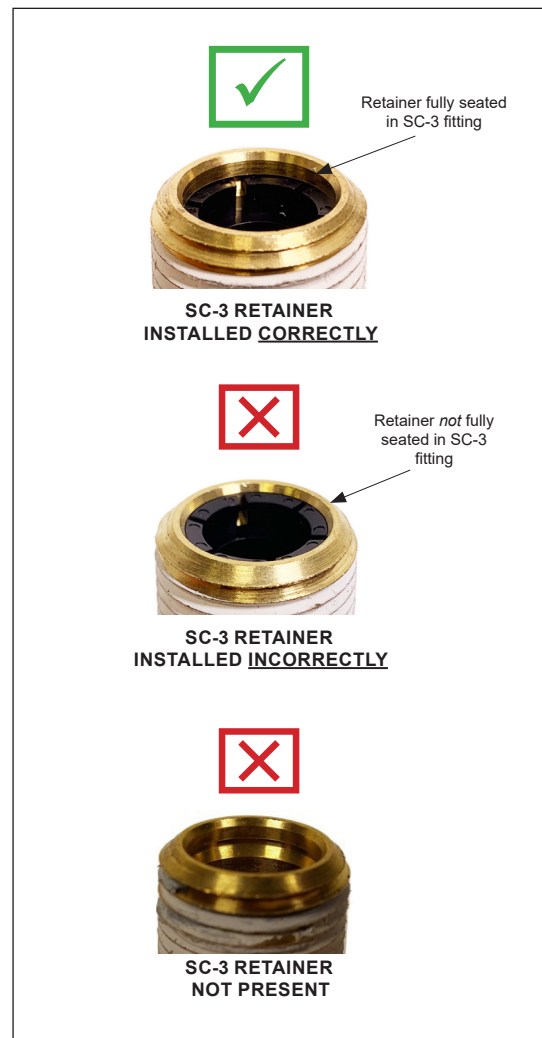

Figure 1 - SC-3 Single Check Valve Retainer
2. See Figures 1 and 2. Inspect the SC-3 single check valve retainer. If the retainer is fully seated, it is correctly installed and not affected by this recall campaign. If the retainer is not fully seated, or is missing, damaged, or the shuttle or retainer are missing or fractured, the SC-3 single check valve falls within the recall parameters. The SC-3 single check valve needs to be replaced. If the shuttle or the retainer are missing (not located in the SC-3 fitting nor in the supply port of the SR-7 spring brake modulating valve) or fractured, the SR-7 spring brake modulating valve will need to be replaced as well.
2. See *Figures 1 and 2*. Inspect the Bendix® SC-3™ single check valve retainer. If the retainer is fully seated, it is correctly installed and not affected by this recall campaign. If the retainer is not fully seated, or is missing, damaged, or the shuttle or the retainer are missing or fractured, the SC-3 single check valve falls within the recall parameters. The SC-3 single check valve needs to be replaced. If the shuttle or the retainer are missing (not located in the SC-3 fitting nor in the supply port of the Bendix® SR-7® spring brake modulating valve) or fractured, the SR-7 spring brake modulating valve will need to be replaced as well.